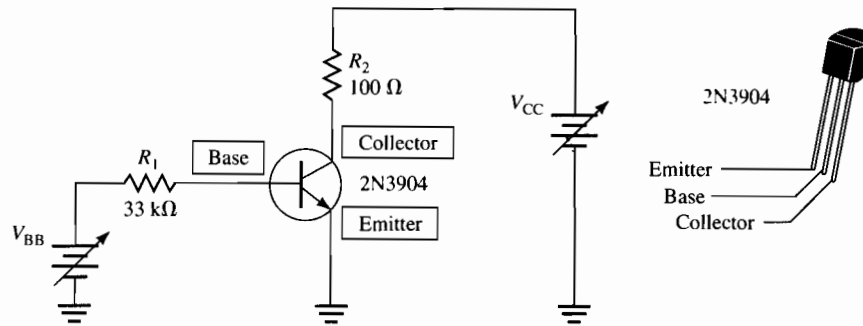

Figure 34–1
2. Connect the common emitter configuration illustrated in Figure 34–1. Start with both power supplies set to 0 V. The purpose of R_1 is to limit base current and allow determination of the base current. Slowly increase V_{BB} until V_{R1} is 1.65 V. This sets up a base current of 50 μA , which can be shown by applying Ohm's law to R_1 .